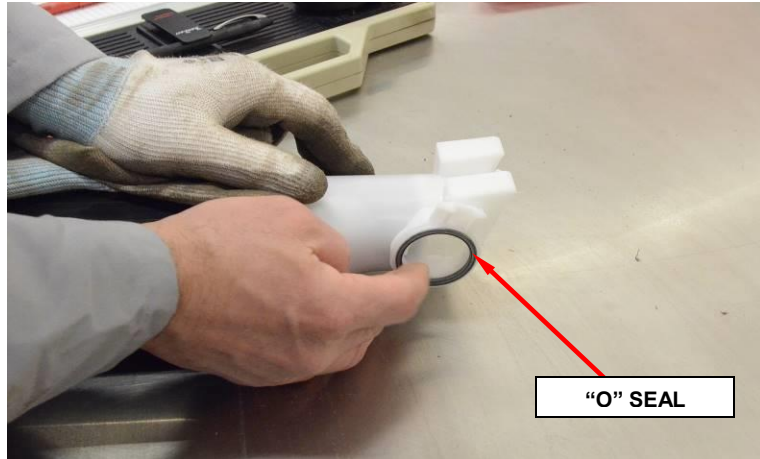

Figure 7 – “O” Seal Installation
17. Install the **NEW** “O” seal onto the **NEW** vapor canister (Figure 7).